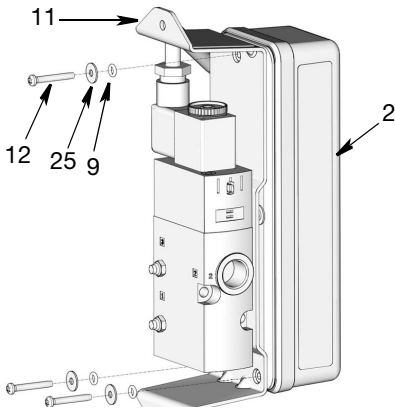

FIG. 33
3. Remove three screws (12), washers (25) and o-rings (9) securing PAC bracket (11) to enclosure (2) (FIG. 33).